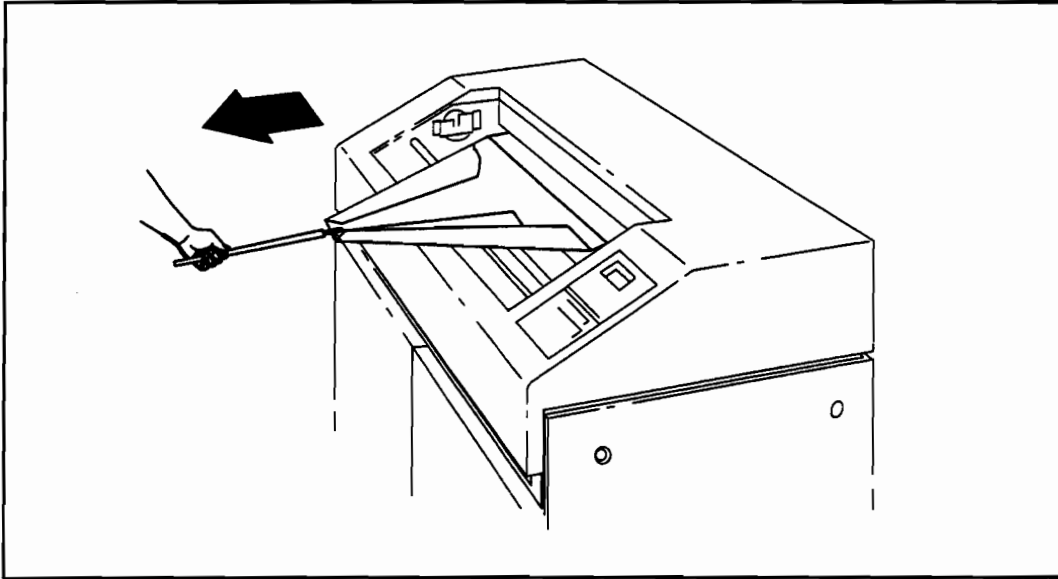
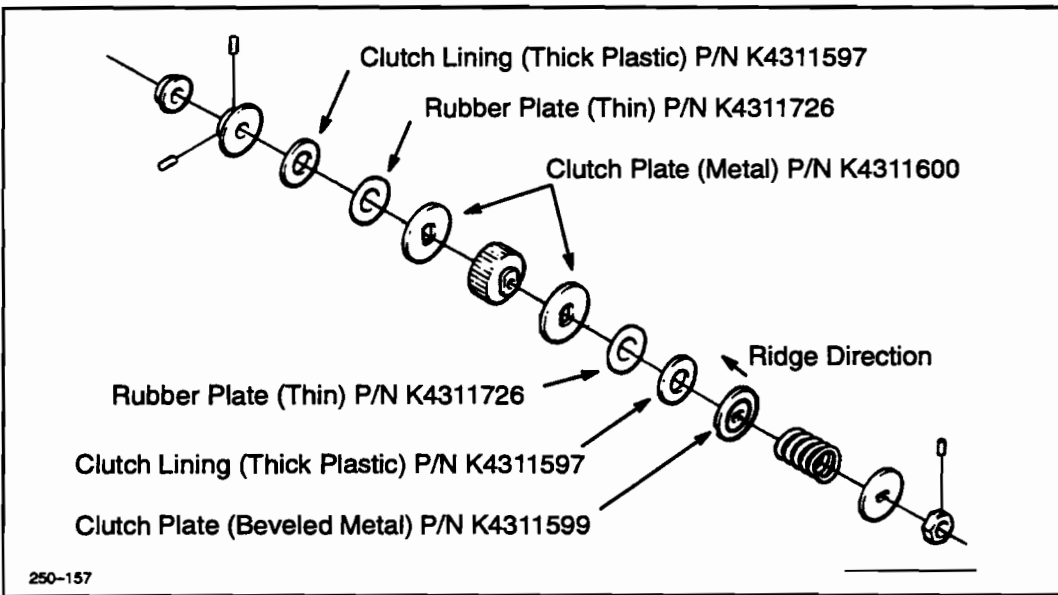

Figure 7-8. Measuring Cutter Slip Clutch Tension
Figure 7-9. Cutter Clutch
8. Using a zero (0) to five (5) kilogram gauge accurate to within ± 0.1 kg, attach the gauge to the media and pull the media (with the gauge) using just enough force to slowly pull the media out of the cutter at a constant speed. See Figure 7-8. When the media is being pulled through the cutter, the kilogram gauge should read $1.4 \text{ kg} \pm 0.3$ kg. If pulling the media through the cutter requires more tension, use a 1.5 mm Allen wrench to loosen the set screw on the adjusting nut and loosen the cutter clutch nut in small increments until the 1.4 kg tension is reached. See Figure 7-9. If the tension required is less than 1.4 kg, tighten the cutter clutch nut until the 1.4 kg setting is reached. Once the adjustment is complete, tighten the cutter clutch nut set screw exactly where it is. **DO NOT** move the set screw to the flat side of the shaft!